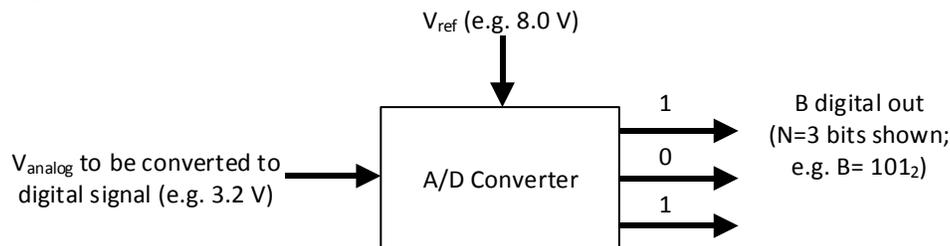

Figure 1- Block diagram of generic A/D Converter
- a) How precise, in %, must the resistor be that has the most control over the output (e.g. the leftmost 10k in the 3bit converter of Figure 1) so that, assuming all the other resistors are perfect, the output value varies less than one least-significant bit's worth? It makes no sense to design a bit converter whose output varies more from resistor tolerances than from its least significant bit.